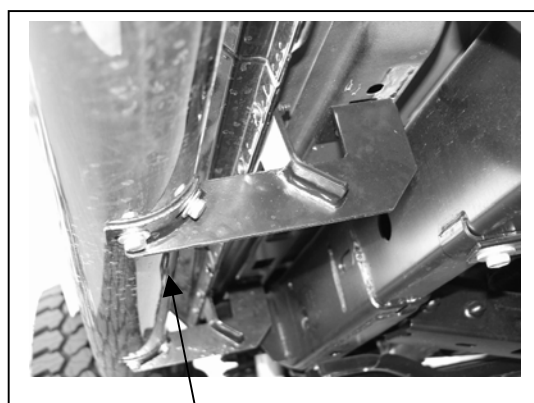

Fig 5
7. Align the bar and tighten all the fasteners (Fig 5) and torque to 30ft-lbs